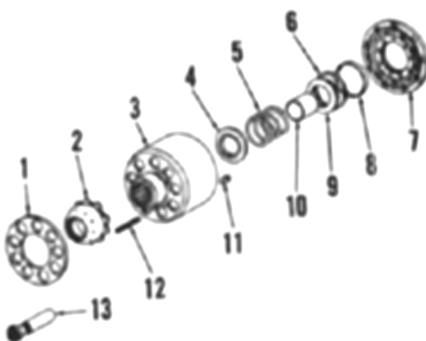

Fig. 123—Exploded view of hydrostatic pump or motor.
To disassemble the pump or motor, grasp outer diameter of slipper retainer (1—Fig. 123) and remove retainer with nine pistons (13). Remove ball guide (2) and withdraw six slipper retainer springs (12). Place cylinder block in a press on wooden blocks. Using a step plate on spring retainer (9), apply pressure to compress spring (5). Remove retaining ring (6), release press and remove spring retainer (9), spring (5) and spring seat (4).
To adjust the input shaft bearings, press front and rear bearings on input shaft until bearings are seated. Install the center section with bearing cups installed and tighten retaining cap screws to a torque of 110 ft.-lbs. Rotate hydrostatic drive housing until front end is pointing upward. Place the input shaft in position. Pull the bearing cup from the charge pump housing and remove any shims present. Place 0.100 inch thickness of shims in bearing bore of charge pump, then press bearing cup into place. Place charge pump over the input shaft and install three equally spaced $\frac{3}{4}$ x 1 inch NC cap screws. Do not use the special "Nyloc" cap screws. Tighten the three cap screws evenly to a torque of 25 in.-lbs. while rotating the shaft. Then, without rotating the shaft, torque the cap screws to 50 in.-lbs. Carefully measure the gap beside each of the three cap screws. The average gap measured should be added to 0.020 inch, then subtracted from the 0.100 inch. This will give the correct shim pack to be used. Example: Gap measured 0.045 inch plus 0.020 inch equals 0.065 inch. Subtract 0.065 inch from 0.100 inch for a shim pack of 0.035 inch. Unbolt and remove charge pump, remove bearing cup and 0.100 inch thick shim pack. Install the determined shim pack and press bearing cup into position. Shims are available in thicknesses of 0.005, 0.007 and 0.020 inch. Reinstall charge pump and tighten five retaining cap screws to a torque of 35 ft.-lbs. Using a dial indicator, check input shaft end play which should be 0.001-0.011 inch. Remove charge pump and input shaft and remove input shaft rear bearing. Install input shaft and swashplate with thrust plate on pump by reversing the removal procedure. Position the horseshoe tool between pto drive gear and swashplate with open side of tool opposite from the servo attaching ears on swashplate. With spring guide (10 - Fig. 123) and centering ring (8) installed, press input shaft rear bearing into position. Wrap assembly in clean paper and lay aside for later reassembly.
housing to upright position and install output shaft assembly. Install upper right and lower left bearing housing cap screws and tighten them evenly to a torque of 25 in.-lbs. while rotating the shaft. Then, without rotating the shaft, torque the two cap screws to 50 in.-lbs. Using a feeler gage, carefully measure the gap between bearing housing and hydrostatic drive housing adjacent to the two cap screws. Subtract the average gap from 0.200 inch which will give the correct retaining ring thickness plus or minus 0.002 inch. For example: If average measured gap is 0.035 inch, subtract 0.035 inch from 0.200 inch which will give 0.165 inch as the correct retaining ring thickness. Remove output shaft assembly and install retaining ring of correct thickness. Retaining rings are available in a range of thicknesses from 0.136 to 0.186 inch in increments of 0.005 inch. Reinstall output shaft assembly and tighten the five bearing housing cap screws to a torque of 35 ft.-lbs. Using a dial indicator, check output shaft end play which should be 0.002-0.008 inch. Remove output shaft assembly and remove front bearing from the shaft. Install output shaft and swashplate with thrust plate on motor by reversing the removal procedure. With spring guide (10 - Fig. 123) and bearing plate centering ring (8) installed, press output shaft front bearing into position. Wrap assembly in clean paper and lay it aside for later reassembly.